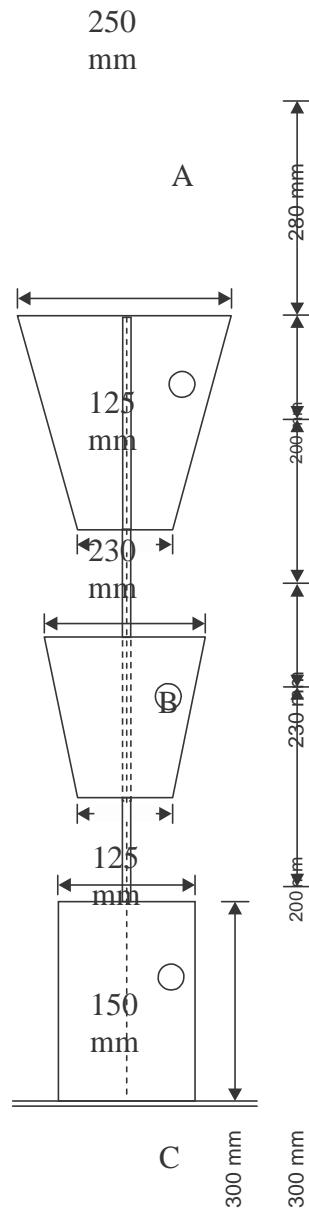

Fig. 1.1.13.2 Compaction factor test
However excess water reduces the strength of concrete. Figure 1.1.13.1 shows the variation of strength of concrete with water cement ratio. To achieve required workability and at the same time good strength a water cement ratio of 0.4 to 0.45 is used, in case of machine mixing
**2. Compaction Factor Test:** This is another test to identify the workability of concrete. This test is conducted in the laboratory. The test equipment consists of two hoppers and a cylinder fixed to a stand, the dimensions and the distances between the three vessels being standardized. Vessel A and B are having hinged bottoms whereas cylinder C is having fixed bottom. [Ref. Fig. 1.1.13.2]